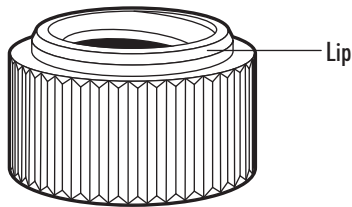
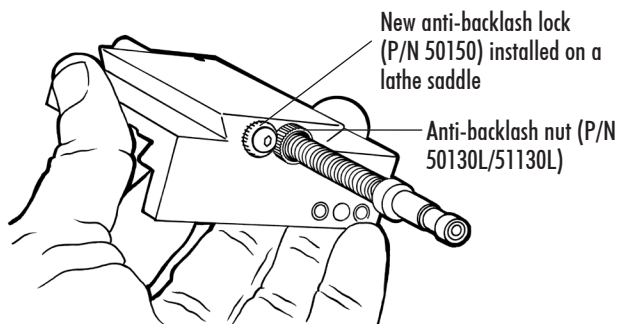

FIGURE 5—Close-up detail of the lathe anti-backlash nut (P/N 50130L/51130L). The backlash nut must be inserted with the lip against the saddle.
FIGURE 6
7. Thread the new brass anti-backlash nut half way onto the crossslide leadscrew with the lip side facing the saddle (see Figure 5). Thread the leadscrew back into the slide screw insert until it is at least halfway into the saddle. Thread the backlash nut down against the side of the saddle so the knurled teeth engage with those on the star gear lock (see Figure 6). Tighten it firmly finger tight and then tighten the button head screw in the star gear lock to lock it in place. Measure backlash as described in your Sherline instruction manual. Proper adjustment should be between .001" (.03mm) and .003" (.07mm) of backlash.